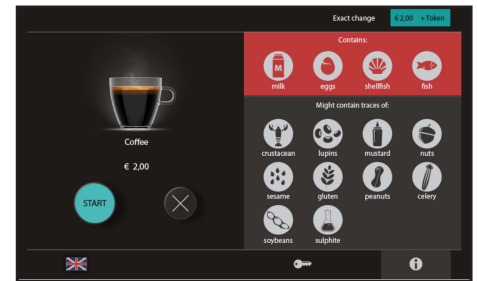

Figure 16.
1. If necessary, consult the allergen information of the consumption you selected (see Figure 16).